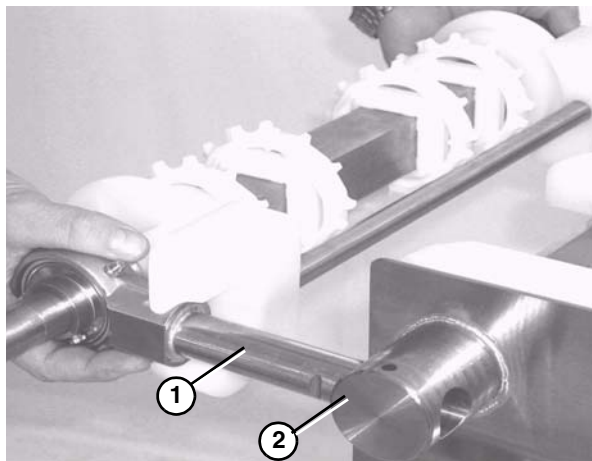

Figure 15
1. Slide the bearing shafts (**Figure 15, item 1**) into the take up blocks (**Figure 15, item 2**).